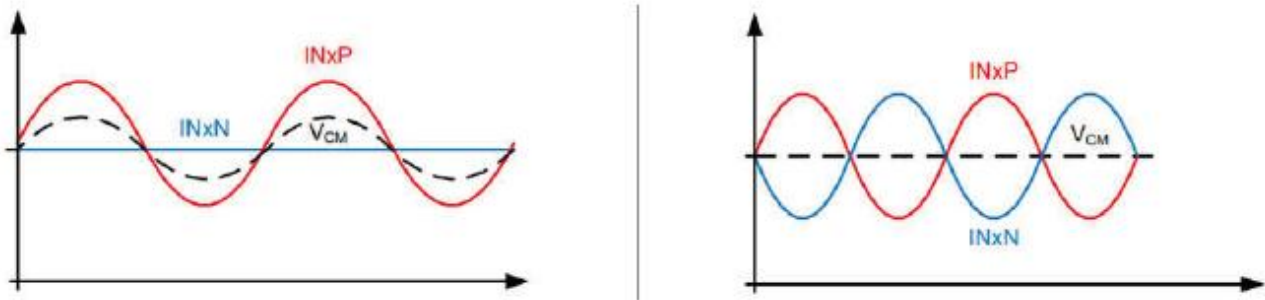

Figure 9.3.3 Pseudo-Differential (Left) and Fully Differential (Right) Driving Configurations
(5) Lead-Off Excitation Signals (LoffP, LoffN) Lead-off excitation signals are fed into the multiplexer before switching. The comparators detecting lead-off conditions are also connected to the multiplexer prior to switching. For detailed explanation, refer to the Lead-off Detection section. (6) Single-Ended Input Measurement Mode Setting CHnSET[2:0] to 011 or 111 routes the bias signal from the BIASIN pin to the designated electrode, enabling the channel to operate as a single-ended input channel. Setting CHnSET[2:0] to 010 and setting the BIAS_MEAS bit in the CONFIG3 register to "1" measures the signal on the BIASIN pin relative to the voltage on the BIASREF pin.
9.3.2 Analog Inputs The analog inputs of the chip are connected to a low-noise, low-drift, high-input impedance programmable gain amplifier via a multiplexer. The CBM24AD98Q analog inputs are fully differential. The range of the differential input voltage ($V_{INxP} - V_{INxN}$) spans from $-V_{REF}/Gain$ to $V_{REF}/Gain$. There are two methods to drive the analog inputs of the CBM24AD98Q: pseudo-differential or fully differential, as illustrated in Figure 9.3.3.